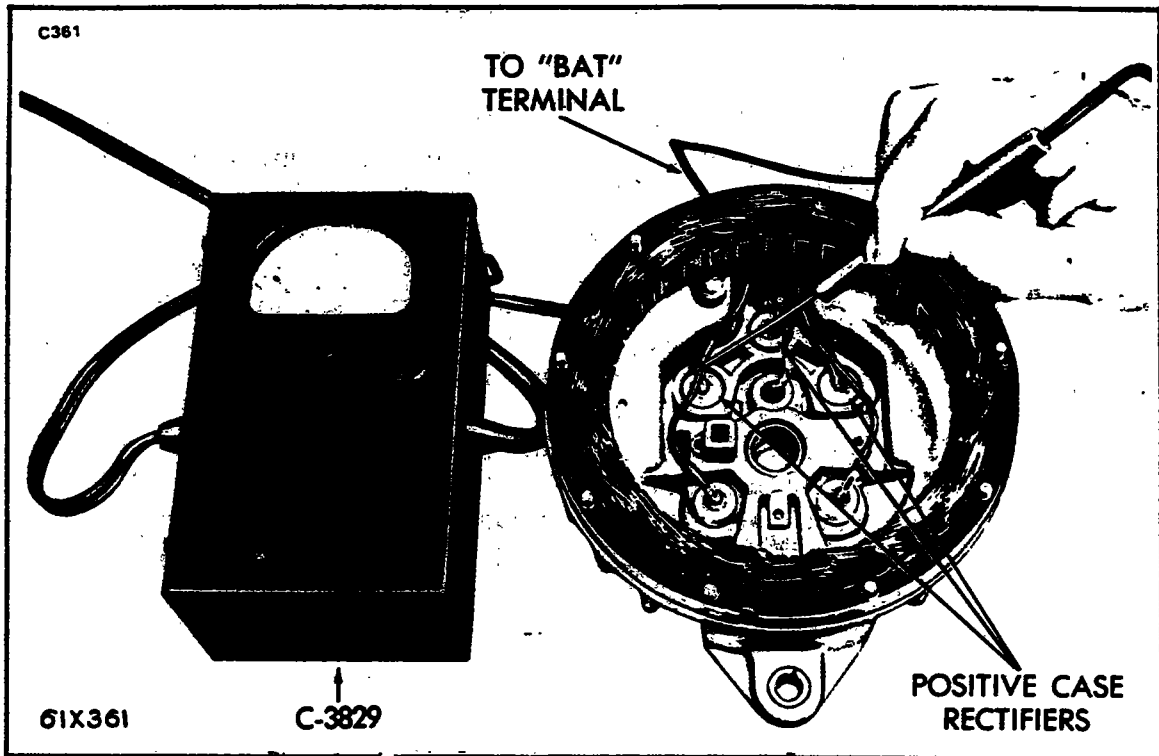

Figure 11-21. Testing Rectifiers (Positive)
**11-51. TESTING RECTIFIERS (POSITIVE.)**(Refer to Figure 11-21.) Special test box tool C-3829 has been developed to test the diode rectifiers without opening the "Y" connection as is necessary where the test lamp method is used.